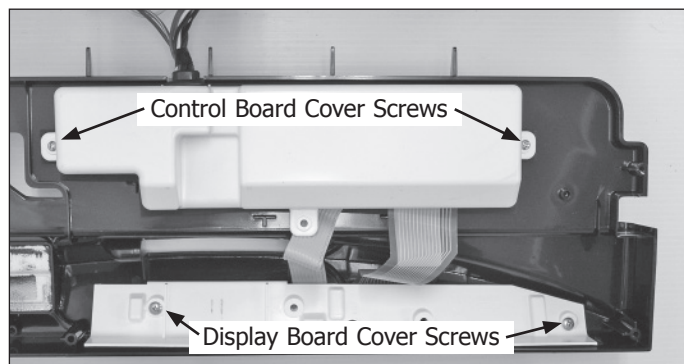

Figure 4-5.
4. Extract the three Phillips head screws securing the control board cover to the console. Lift cover off console. (See Figure 4-5)
4. Extract the two screws securing display board cover to console. (See Figure 4-5) Remove cover.